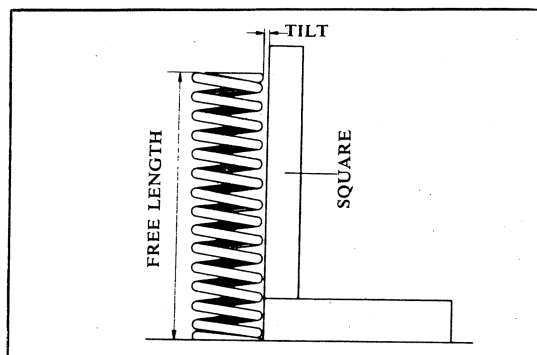

Fig. 132 Spring free length measurement
① Brake shoe
1) Front fork spring. (Fig. 132)